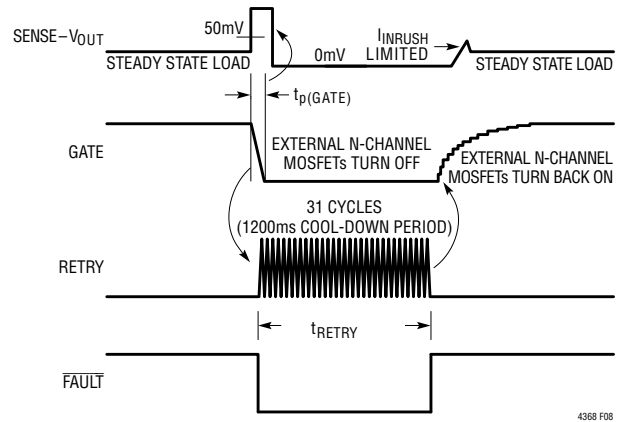

Figure 8. Forward Overcurrent Fault with  $0.22\mu F$  RETRY Capacitor
1. Automatically restart by placing an external capacitor on the RETRY pin. An internal cool-down timer will charge/discharge this capacitor 31 times with a  $5.5\text{ms/nF}$  total delay. At the end of this delay, the external MOSFETs are turned back on, thus reconnecting the load to the input supply. The  $0.22\mu\text{F}$  capacitor ( $C_{RETRY}$ ) in the application of Figure 7 yields a  $1200\text{ms}$  cool-down timer delay. Note that the adjustable cool-down period provides the user with a means of keeping the external MOSFETs within the rated SOA (safe operating area). See Figure 8 timing diagram.